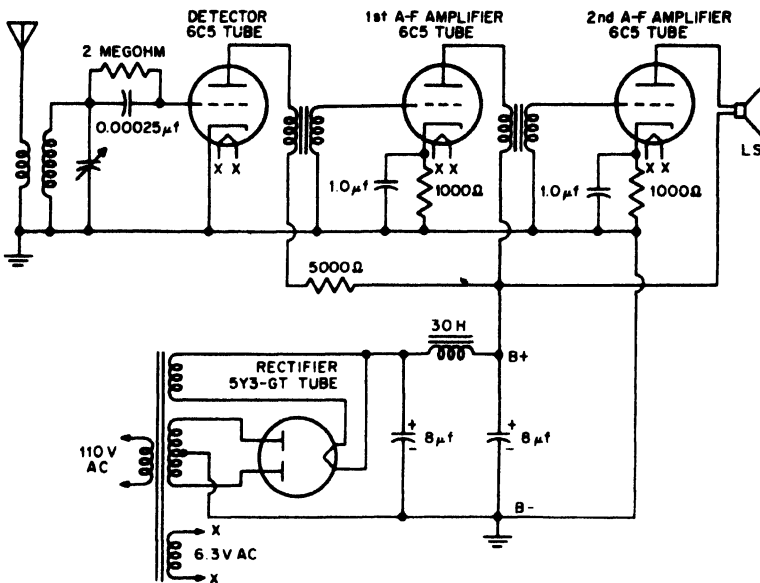

Fig. 20-6. Diagram showing the circuit of an all-electric receiving set.
**The Complete No-Battery Receiver.** Having succeeded in eliminating all batteries, we are now ready to present our no-battery radio receiving set. This is shown in Figure 20-6. In this diagram, the wires connecting the filaments of the tubes to the step-down secondary, which gives the 6.3 volts of alternating current needed to heat these filaments, are omitted for the sake of simplicity. In wiring this set, however, a certain precaution must be taken. These wires, carrying alternating current, have a fluctuating magnetic field around them. If this field cuts across any other conductor near them, currents will be induced which will interfere with the reception of the signal.